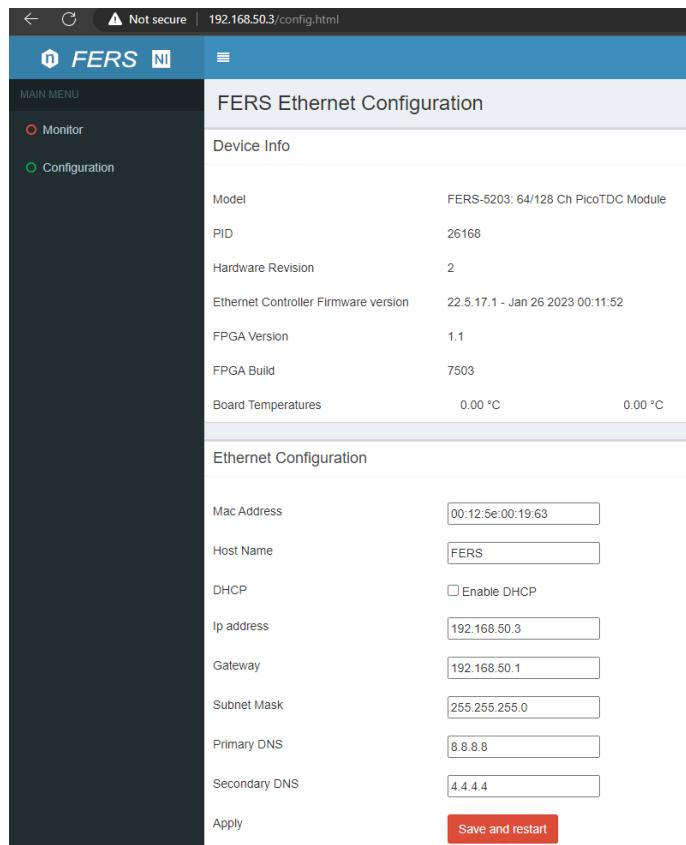

Fig. 11.8: Configuration Tab of the Web Interface for Ethernet settings.
2. Open the Configuration tab (see **Fig. 11.8**). This window allows the user to read the device information, like the serial number, the hardware and firmware revision. Moreover, it is possible to set an IP address of the instrument different with respect to the default one. This last operation can be particularly useful in case the user wants to perform a multi-board Ethernet connection and therefore needs to associate each board with a different IP address (see Janus 5203 User Manual [RD3] for more details).